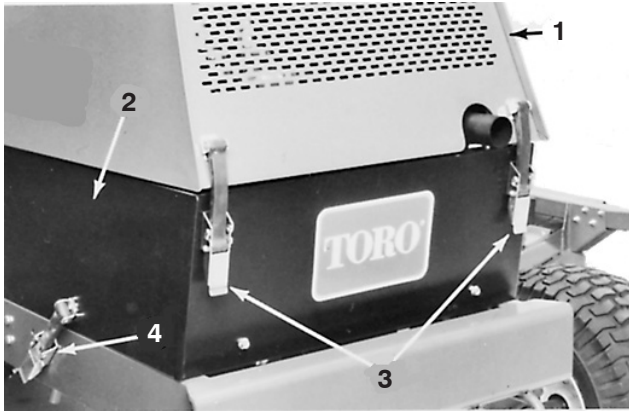

Figure 27
1. Unlatch, raise and prop engine hood open and remove left side panel (Fig. 27).